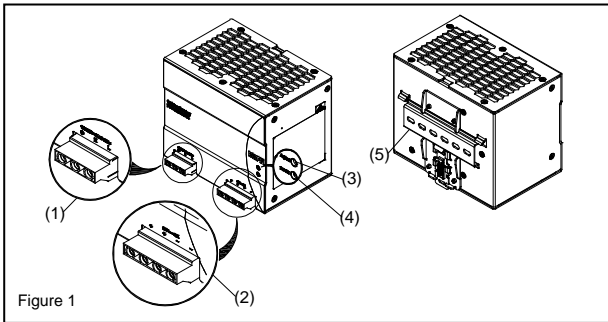
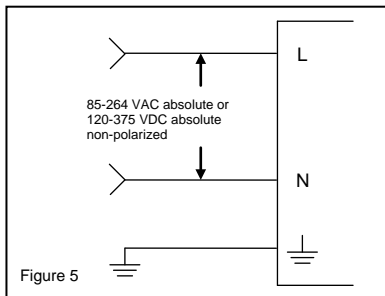

Figure 1
Figure 5
### 2. Device description (Fig. 1)
### 5.1. Input connection (Fig. 1 (1), Fig. 5)
Use L, N and PE connections of input terminal connector (see Fig. 1 (1)) to establish the 100-240 VAC connection.
### 5.2. Output connection (Fig. 1 (2))
Use the "+" and "-" screw connections to establish the 24 VDC connection. The output provides 24 VDC. The output voltage can be adjusted from 24 to 28 VDC on the potentiometer. The green LED DC OK displays correct function of the output (Fig. 1 (4)). The device has a short circuit and overload protection and an overvoltage protection limited to 35 VDC.